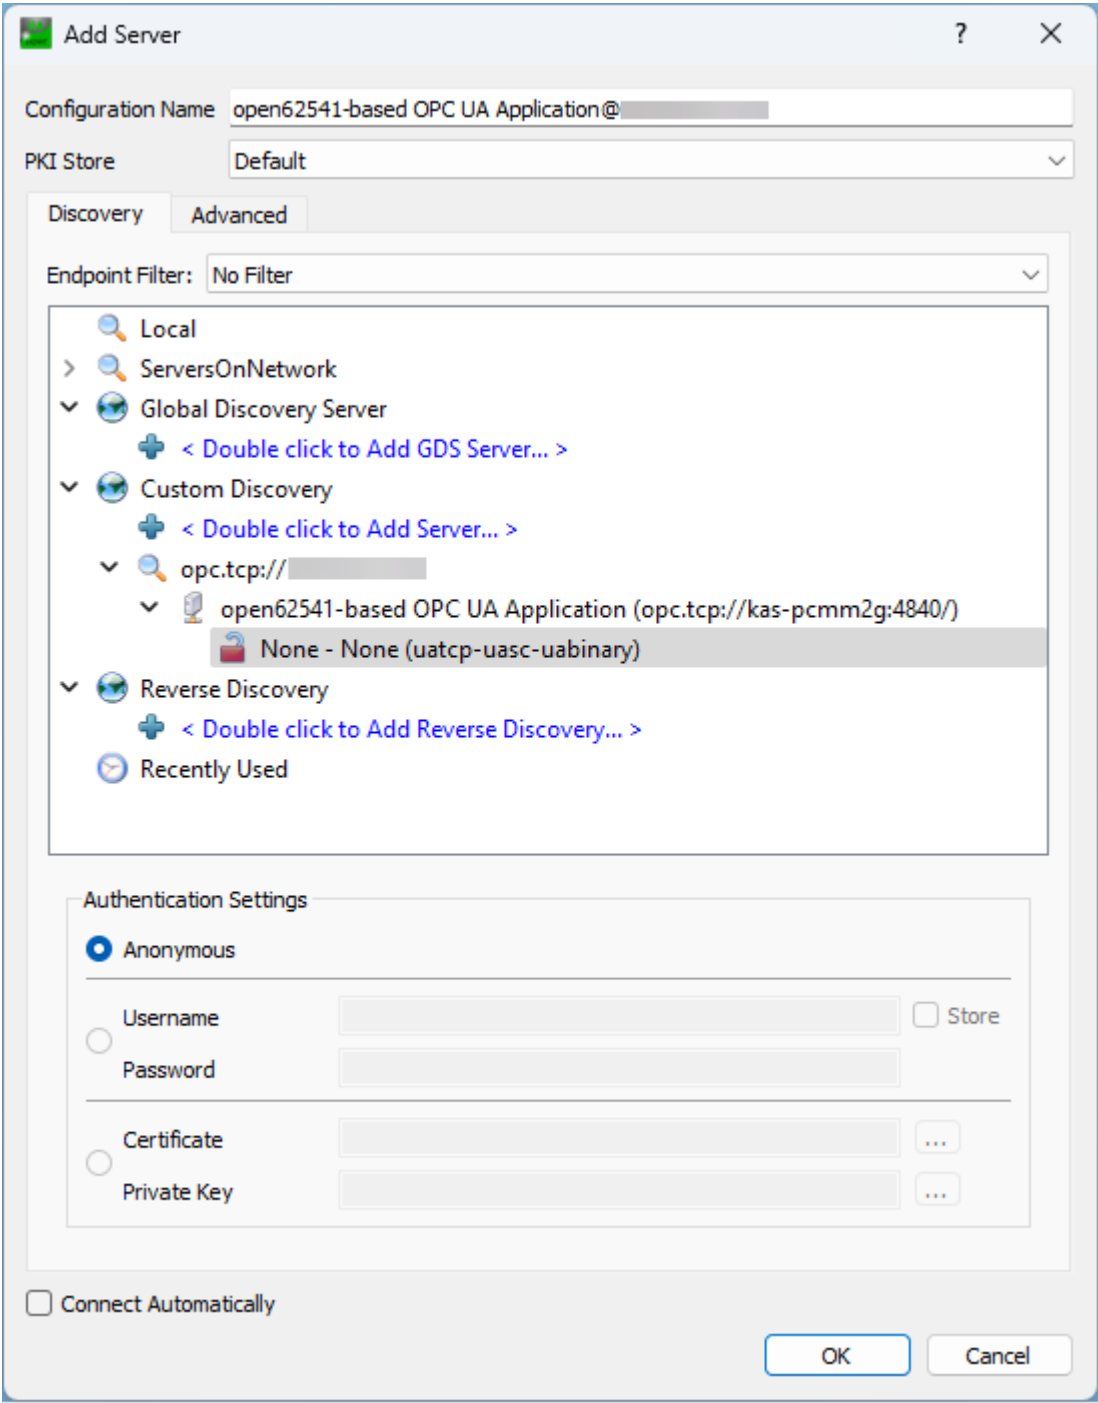

Figure 3-26: Add Server dialog box - None
8. Under the `opc.tcp://(PCMM2G_IP_Address)`, select **None**. (Figure 3-26)